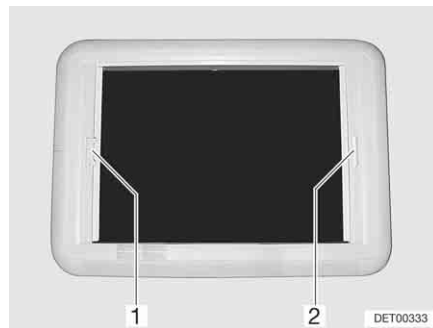

Fig. 67 Heki skylight, blind lock
- Pull blind at the handle (Fig. 67,2) to the opposite handle of the insect screen (Fig. 67,1) and allow to engage.
- With your other hand, push the unlocking bar on the handle of the insect screen (Fig. 67,1) towards the handle. The lock is released.
- Pull insect screen at the handle (Fig. 67,1) to the opposite handle of the blind (Fig. 67,2) and allow to engage.
- Hold the insect screen (Fig. 67,1) by the handle and push the unlocking bar towards the handle. The lock is released.